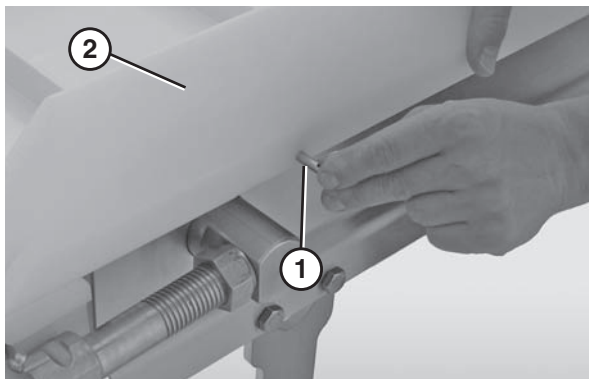

Figure 46
1. Remove the pull pins (**Figure 46, item 1**) that connect the guide (**Figure 46, item 2**) to the frame.